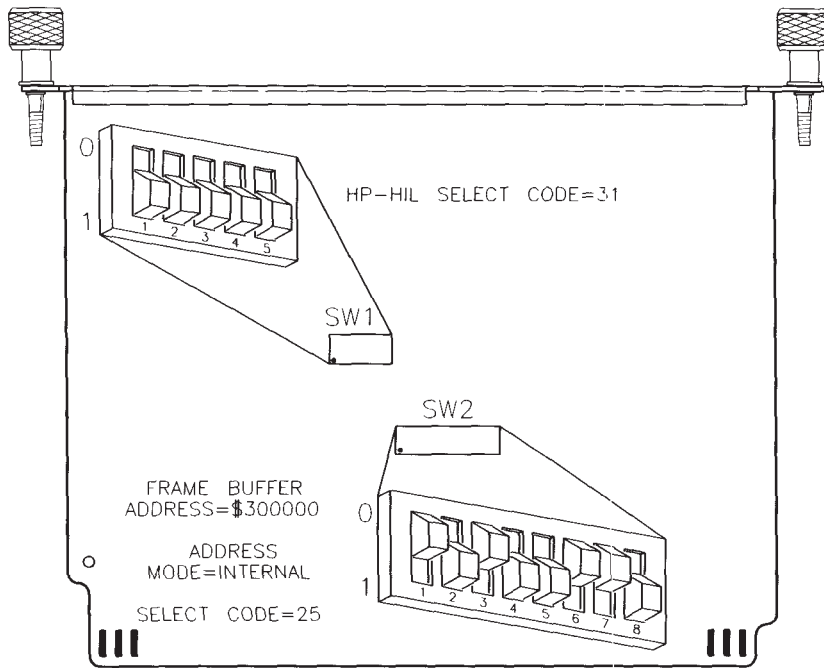

Figure 5-1.
Note The Graphics Display Station's HP-HIL Interface is not currently supported by any Series 300 operating system. Therefore, you do not need to change the HP-HIL select code switches (SW1), even if you have two Graphics Display Stations. Leave them set to 31, as shown in Figure 5-1, and go on to step 3.
SKIP? If this is the first (or only) Graphics Display Station Interface you are installing, you can skip to step 4. Your frame buffer address is preset to \$300000 (in hexadecimal), as shown in Figure 5-1, and need not be changed.
- a. Find the set of eight switches labeled SW2 on the Graphics Display Station Interface (see Figure 5-1). Switches 1 and 2 in this group determine the frame buffer address.
- a. Find the set of eight switches labeled SW2 on the Graphics Display Station Interface (see Figure 5-1). Switch 3 in this group determines the addressing mode.
- If you want to use the Graphics Display Station as the system console, or if it is your *only* bit-mapped system display, set switch 3 to 0, as shown in Figure 5-1 (see Important! note below). This places the Graphics Display Station at **internal address** \$560000 (in hexadecimal). If you have two Graphics Display Stations, only one of them may be set to internal addressing mode.
- To use the Graphics Display Station as a graphics output device *only*, set switch 3 to 1, which is opposite the setting shown in Figure 5-1. This places the Graphics Display Station at the **external address** (i.e., select code) specified in the next step.